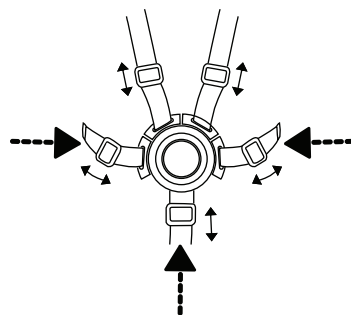

Fig.10b
- Adjust straps for your child's comfort and safety by sliding buckles in either direction. Safety straps are to fit snug around your child (Fig. 10b).